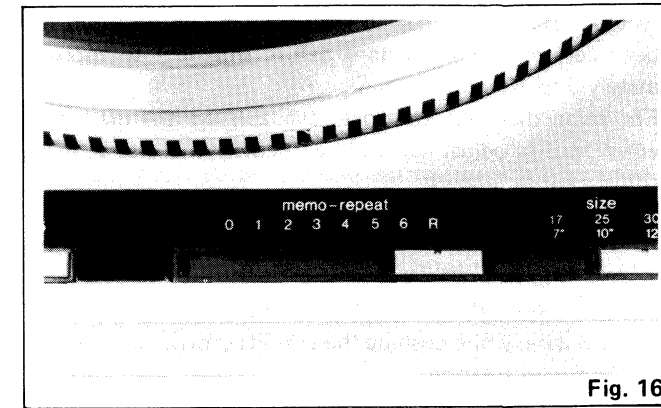

Fig. 16
1. Set the "memo-repeat" knob to the desired number of times you wish to play. "R" position enables you to repeat play continuously. (See Fig. 16.)